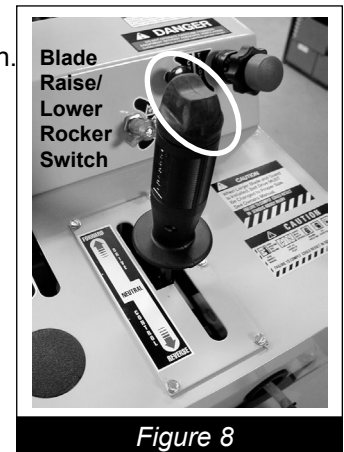

Figure 8
- Lower the blade by depressing the blade lift/lower switch (*Figure 8*) until it just touches the slab surface. When blade touches, set the depth indicator to zero.
- Raise the blade completely out of the cut by depressing the blade lift/lower switch. (Figure 8) DO NOT attempt to raise the blade with the depth control lock.